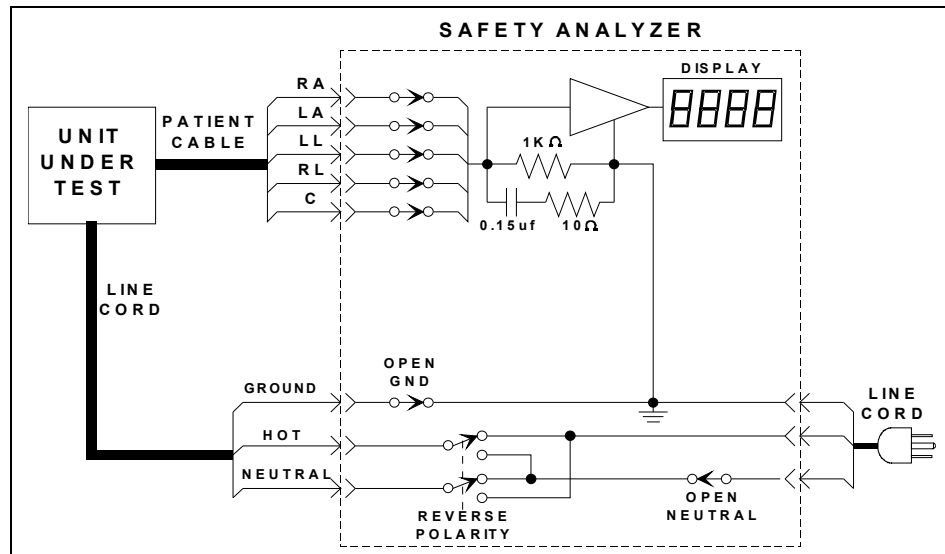

FIGURE 4-14
1. Connect the PATIENT CABLE from the safety analyzer to the **CS300**, as shown in FIGURE 4-14.